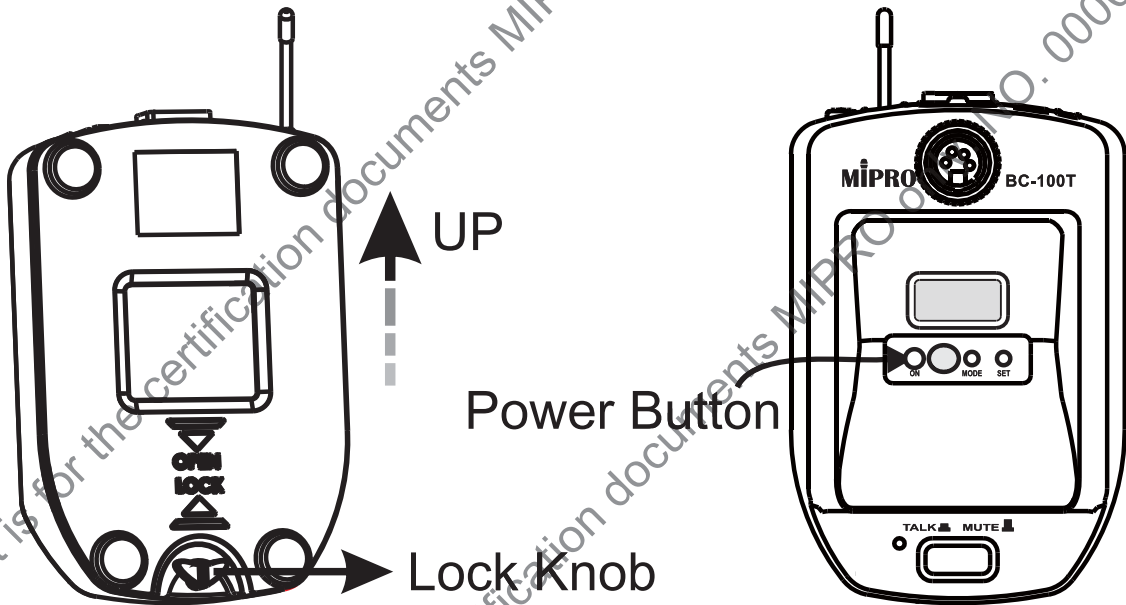

Fig. 4
- Align and push up the Base Cover 12 and turn the knob 14 180° for a secured closure. Push and hold Power Button 6 for 2 second to power on, Fig. 4.